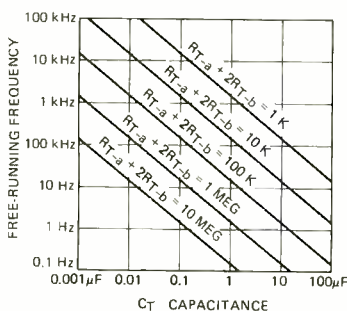

FIG. 14—FREQUENCY of the astable multivibrator can be determined from the graph.
As capacitor C_T starts charging toward $\frac{2}{3} V_{cc}$, the output goes high and remains so for period t_1 —in seconds equal to $0.693 (R_{T-a} + R_{T-b}) C_T$. The discharge period—the time that the output is low—is $0.693 (R_{T-b}) C_T$. Frequency is the reciprocal of the total time period (T) or $1.44 / (R_{T-a} + 2R_{T-b}) C_T$. The free-running frequency of the multivibrator can be determined from Fig. 14 which relates frequency in hertz to C_T , R_{T-a} and R_{T-b} . Note that if R_{T-b} is greater than $\frac{1}{2} R_{T-a}$, the circuit cannot oscillate because the voltage at pin 2 cannot drop to $\frac{1}{3} V_{cc}$ so that the circuit can retrigger.